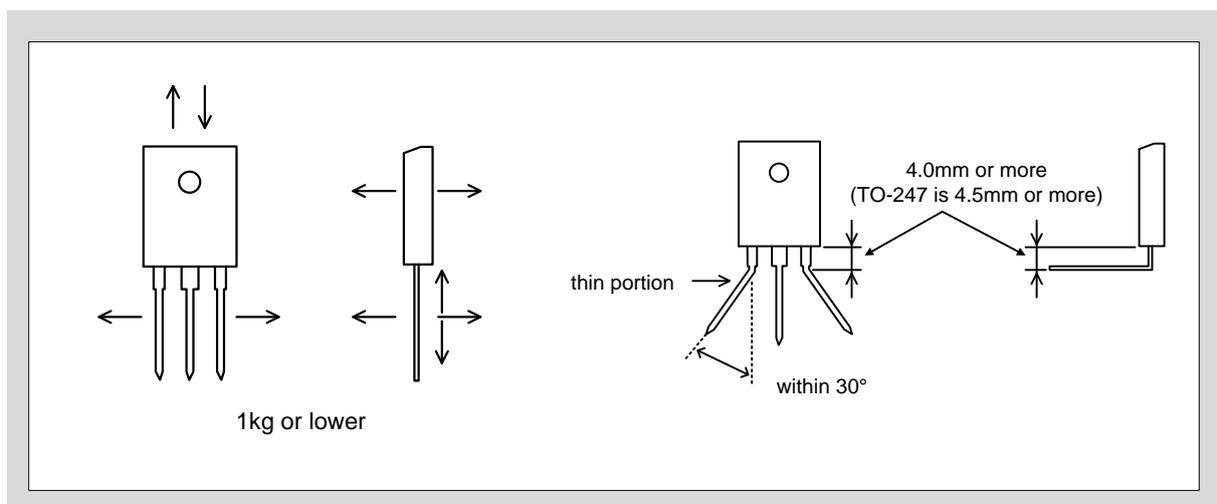

Figure 6-3. Recommended forming terminals
The load applied in the direction shown in Fig. 6-3 should be 1 kg or less.
- ◆ Use special jigs that does not put stress on the internal chip and external package, as shown in Figure 6-3.
- ◆ When bending the terminal in the horizontal direction, bend it at a distance of 4mm or more away from the package, and keep the bending angle within 30° (Fig.6-3).